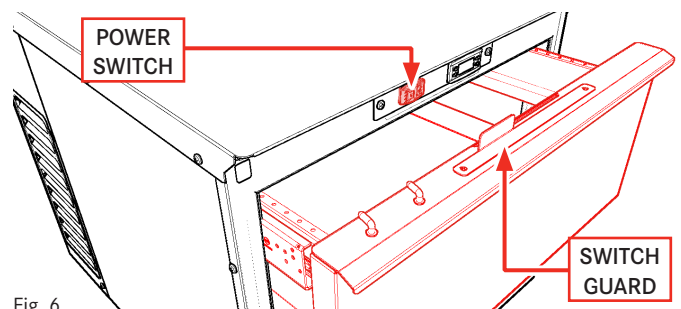

Fig. 6
9. Open the top drawer and toggle the power switch ON to start the refrigerator (Fig. 6). Close the drawer once powered ON.